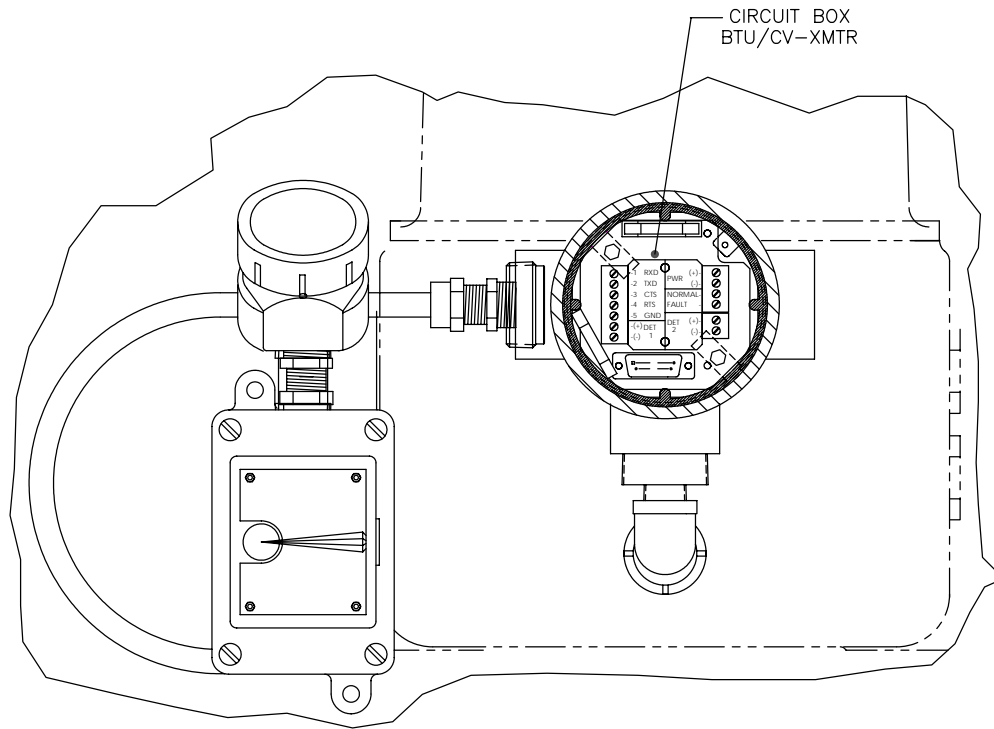

Figure 23 Installed Power Switch Option
- 11) Remove cover from Btu Transmitter Circuit Box (see Figure 23).